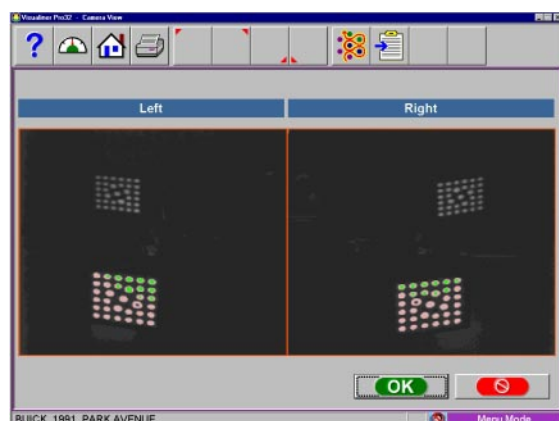

Figure 3-39
3. A camera view field will display what the cameras are seeing. (Figure 3-39)